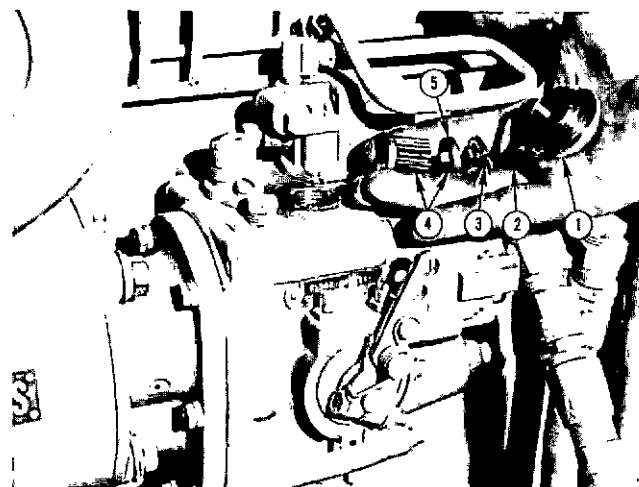

Fig. 2-43 (N11950) Fuel pump screen - PT fuel pump
1. Loosen and remove cap (1, Fig. 2-43) and "O" ring (2), spring (3). Lift out filter screen assembly (4).